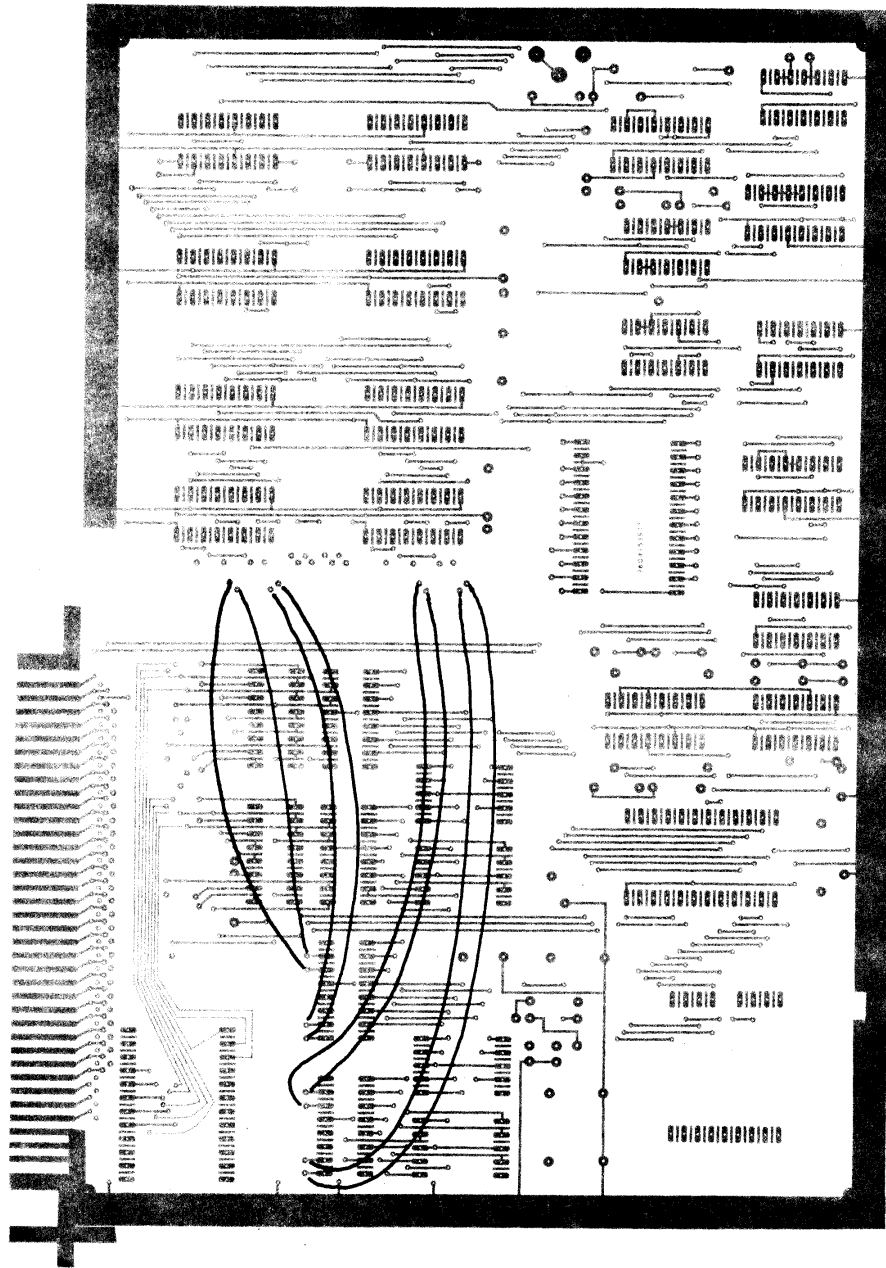

Figure 11. Wiring for Data Display Bus
- (.) Cut and prepare eight 6 inch lengths of wire. Connect as indicated in Figure 11.